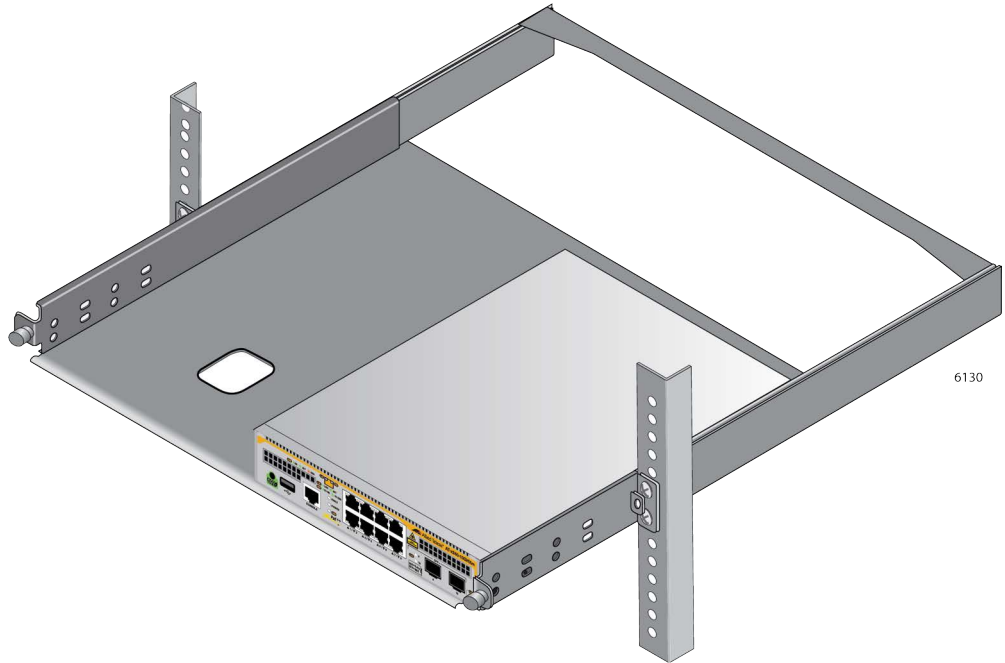

Figure 40. Placing a Switch in the RKMT-J15 Bracket
7. Place the switch in the left or right side of the bracket, with its front panel facing the front of the bracket. If you are installing only one switch, you can install it on either the left or right side. Refer to Figure 40 on page 68.